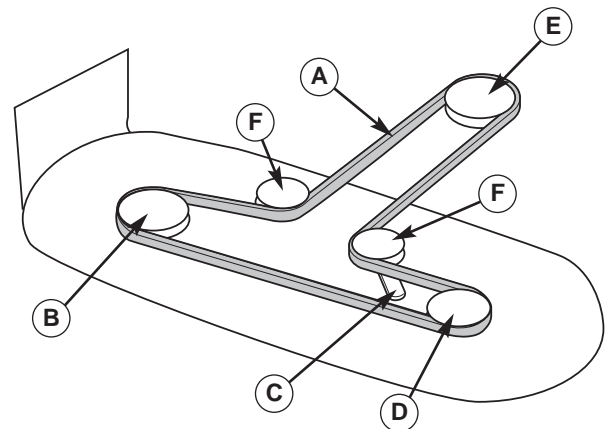

Figure 40. PTO Belt Routing
2. Use the idler pulley arm (C, Figure 40) to release belt tension and remove the mower drive belt (A) from the PTO pulley (E).
4. Install the new belt (A) as shown in Figure 40.